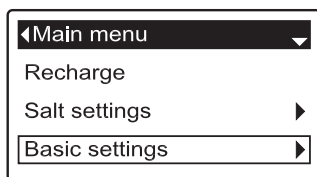

FIG. 34
1. From any of the rolling status screens, press the SELECT (O) button to display the **Main menu**.
2. Press the DOWN (▼) button to scroll through the menu options until **Basic settings** is highlighted (See Figure 34).